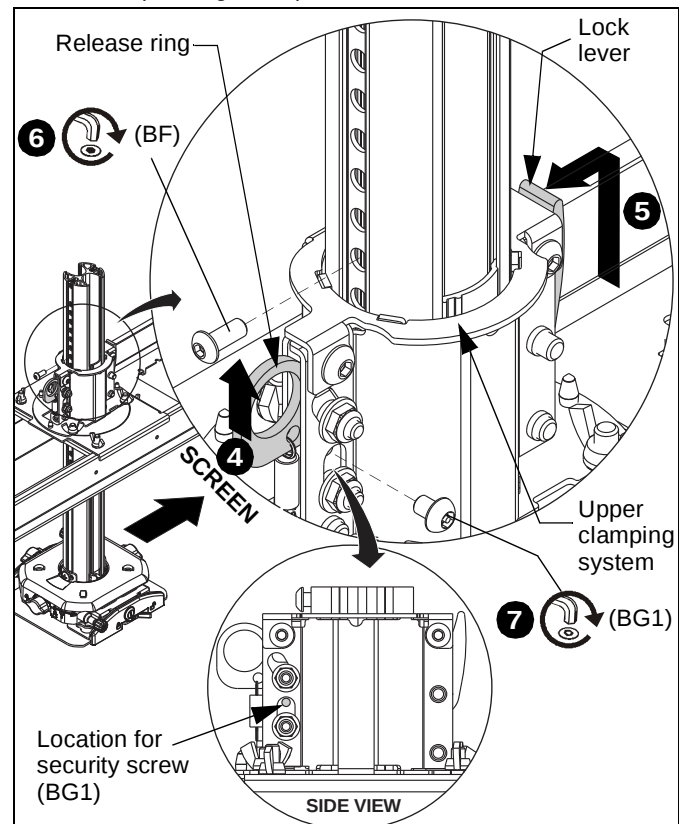

Figure 18
IMPORTANT ! : At least one full hole (on side of column) must be visible above the upper clamping system. (See Figure 18)
4. If necessary, pull up on the release ring found on the suspended ceiling plate assembly (R) in order to move the column downward. (See Figure 18)
5. Push lock lever up to stabilize motion of the projector mount. (See Figure 18)
6. Install one 1/4-20 x 5/8" button head screw (BF) into extension column in first opening above column collar, tightening firmly against column. (See Figure 18)
7. Install one 10-24 x 1/4" security button head screw (BG1) into column mechanism on suspended ceiling plate assembly to prevent movement of the release ring and further movement of the column. (See Figure 18)